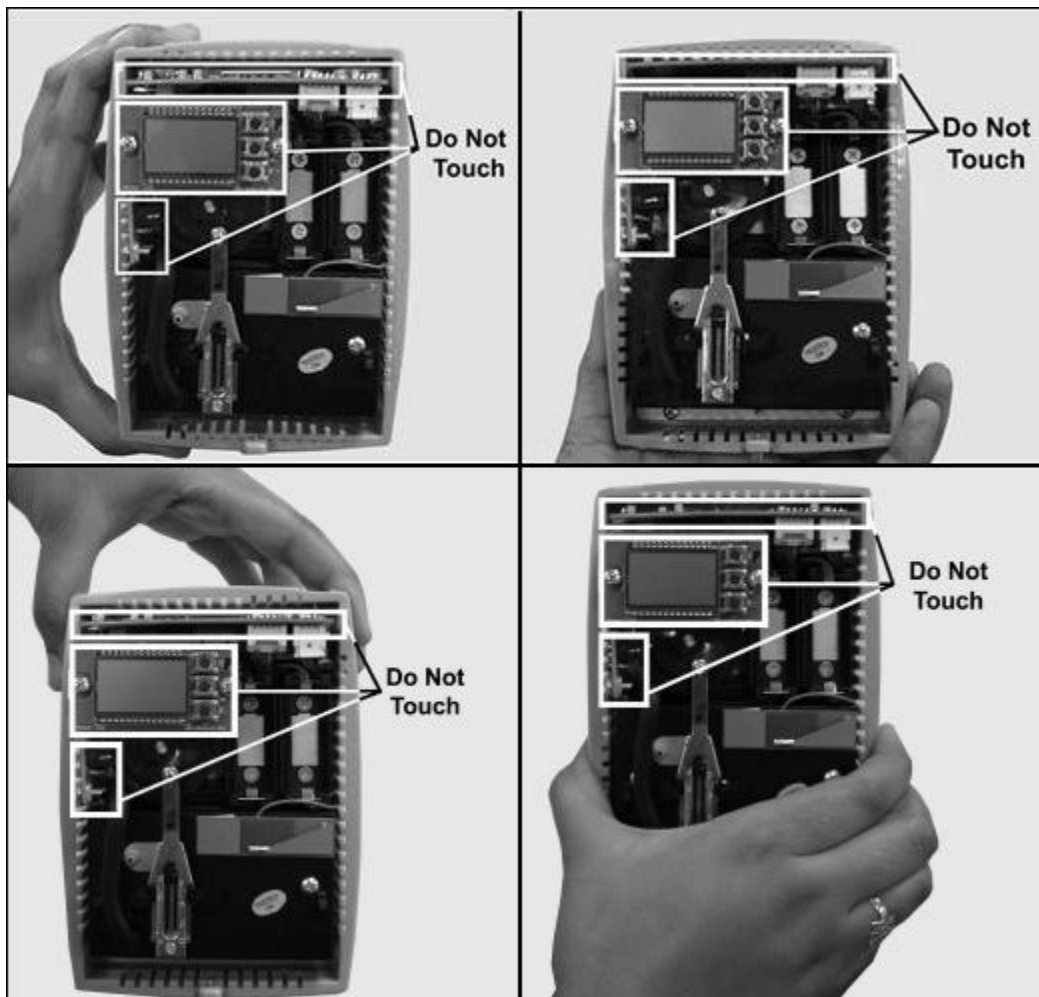

Figure 1- Handling WPT
- Hold and handle the unit as shown in figures 1, using the external bottom plastic cover as the support.